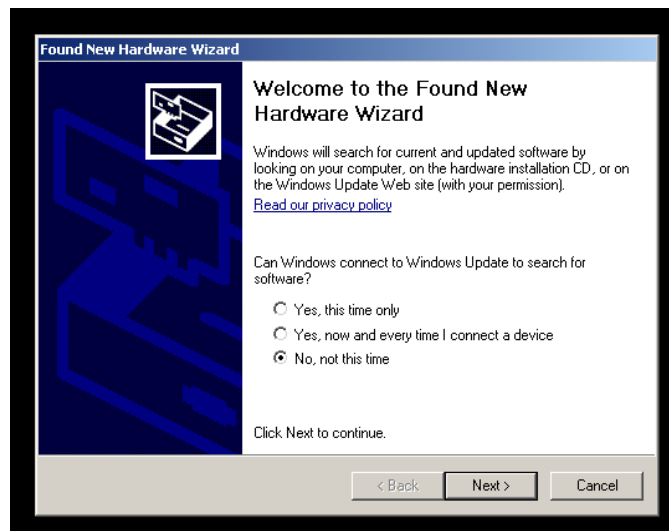

Figure 2-12: Found New Hardware Wizard (Page 1)
- 2) Select *No*, not this time from the *Found New Hardware Wizard* as shown in Figure 2-12.
The next page of the *Found New Hardware Wizard* as shown in Figure 2-12 will then be displayed while searching and copying the files.
When the installation is complete, the next page of the *Found New Hardware Wizard* as shown in Figure 2-12 will then be displayed.